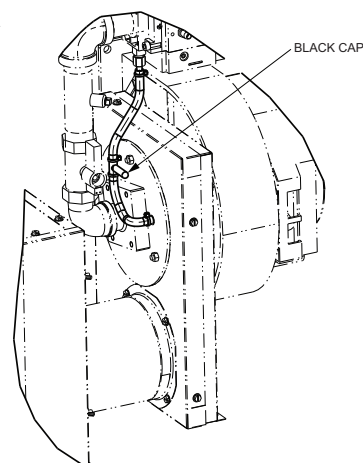

Fig. 42: Pressure Vent Switch Assemblies
5. Attach a 12" scale manometer between the Swirler and Gas valve on the air hose tee (see Fig. 42). Pull the black cap to connect the manometer.